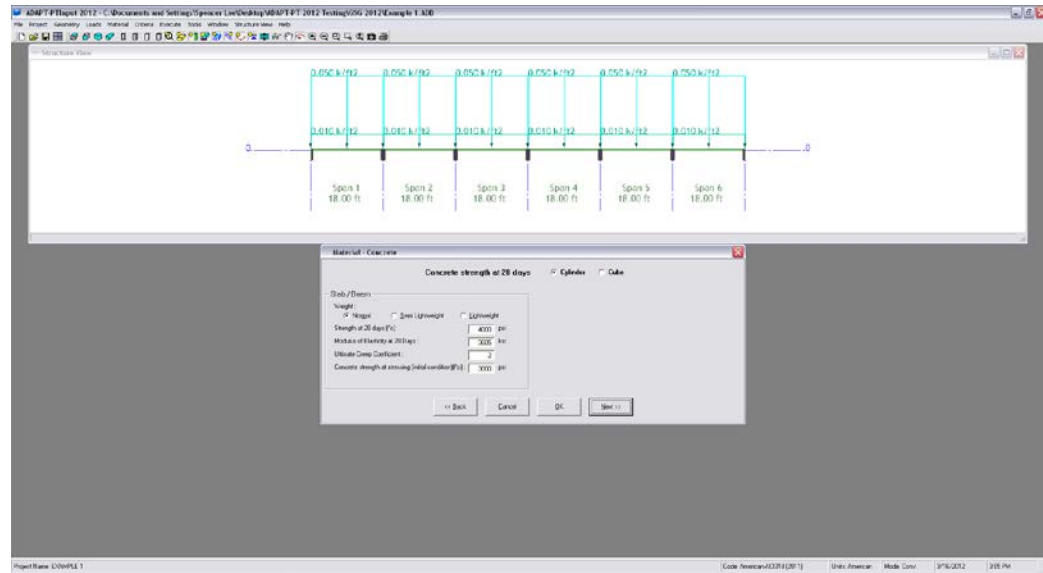

FIGURE 2.1-10
2.1.4.1 Enter The Properties Of Concrete (Fig. 2.1-10)